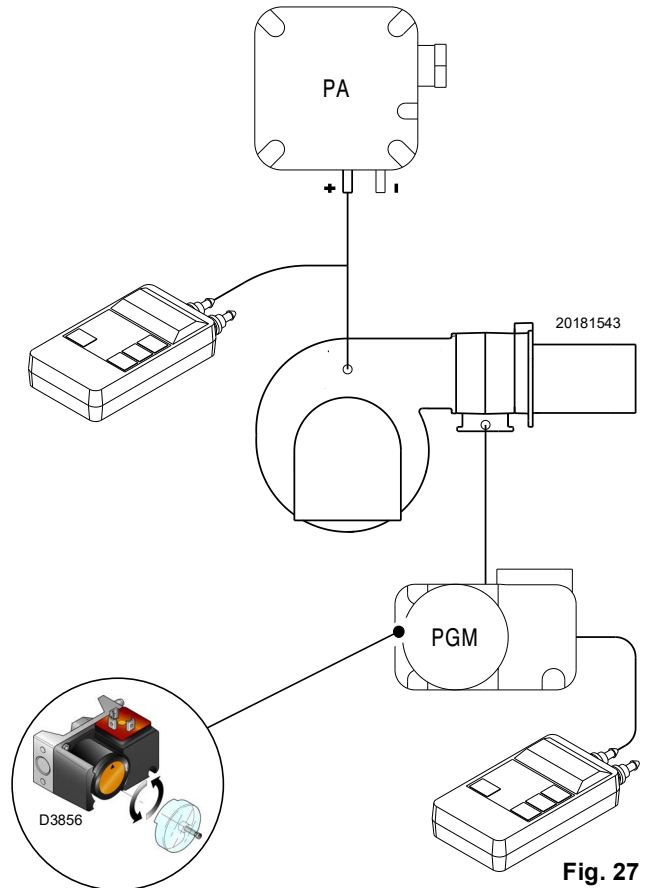

Fig. 27
- Adjust the maximum gas pressure switch (Fig. 27 on page 26) to the end of the scale.
Adjust the maximum gas pressure switch (Fig. 27) after making all other burner adjustments with the maximum gas pressure switch set to the end of the scale.